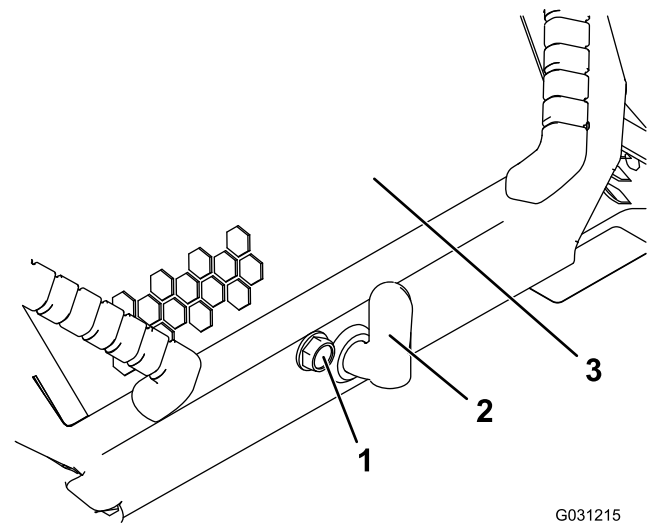

Figure 39
1. Loosen the hood-locking screw (Figure 39)
2. Turn the hood latch clockwise (Figure 39).
3. Lift up on the handles and swing the hood up (Figure 39).
3. Tighten the hood-locking screw to secure the latch (Figure 39).